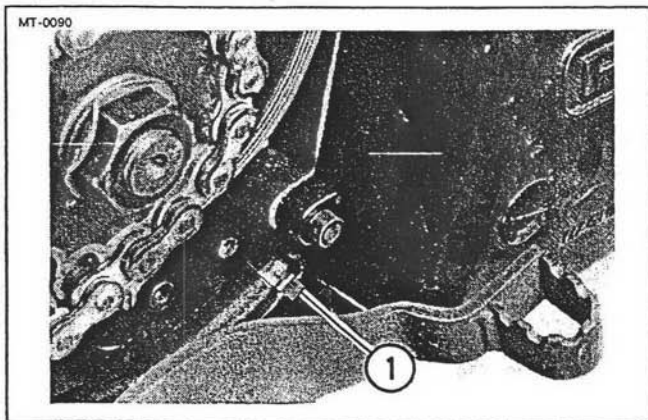

Figure 4-9. Crankcase Breather Tube and Connection at Engine Crankcase
- Step 5. See Figure 4-9. Check tube connection (1) at engine. Tighten clamp if loose. Refer to *Service Manual* for replacement procedure if tube is damaged or missing.